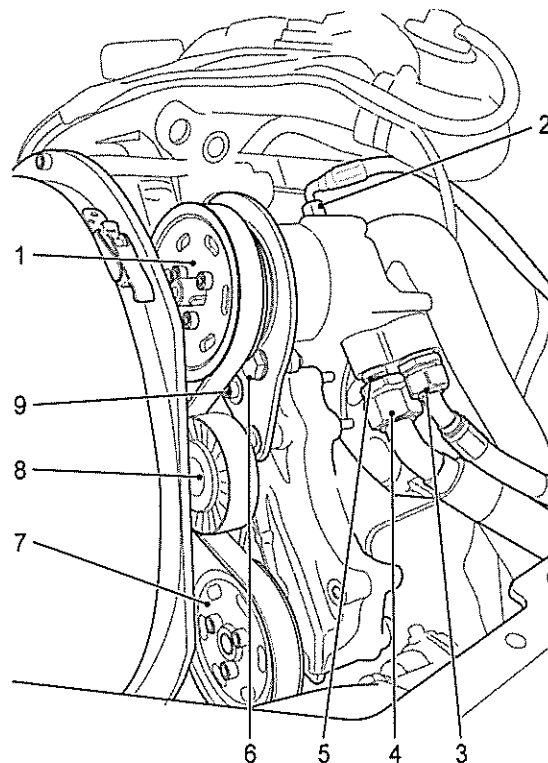

Fig 6 Hydraulic pump
- 40.6.1 Remove and retain the three cap head screws securing the pulley to the pump (see Fig 6) and remove pulley (see Fig 6 (1)).
- (1) Tighten the pump to bracket securing bolts to the correct torque (see Table 2, Ser 3).
- (2) Locate the key way spacer in accordance with the position measured on disassembly and secure the key and key way spacer with the securing bolt.
- (3) Loosely fit the pump pulley and check alignment with the similar power steering pump pulley (see Fig 6 (7)) using a steel rule. Adjust position of key way spacer if necessary to achieve alignment.
- (4) Tighten the three cap head screws securing the pulley to the pump to the correct torque (see Table 2, Ser 4).
- (5) After refitting the plug to the fourth port on pump (5) and connecting the pressure hose (3), suction hose (4), fill the pump case with a small amount of oil via the pump case drain hose port (2) and connect pump case drain hose.
42 In the event the hydraulic pump is being removed in order to remove the engine, there should be no need to disconnect the hoses from the pump or hydraulic module. To remove the pump, in this instance, remove the ribbed V (FEAD) belt (see Chapter 1) together with the FEAD tensioner pulley adjacent to the pump pulley (see Fig 6 (8)).